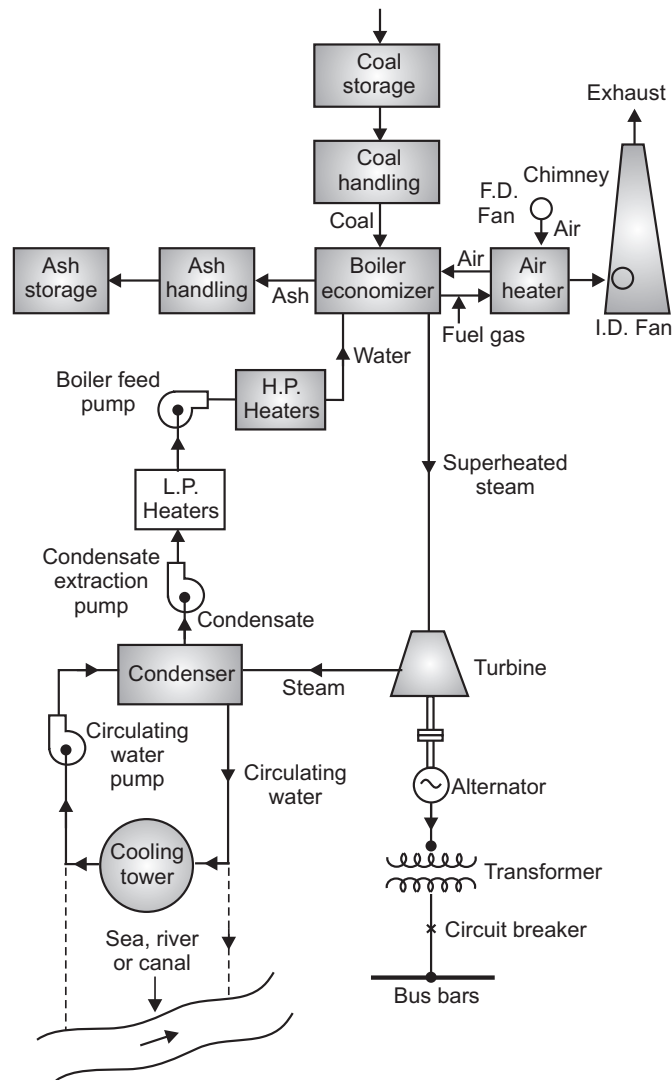

Fig. 1.2: Schematic layout (Block diagram) of a typical coal-fired power station
- Fig. 1.2 represents the schematic layout of a coal-fired modern power station. The plant can be divided into the following main parts, namely: